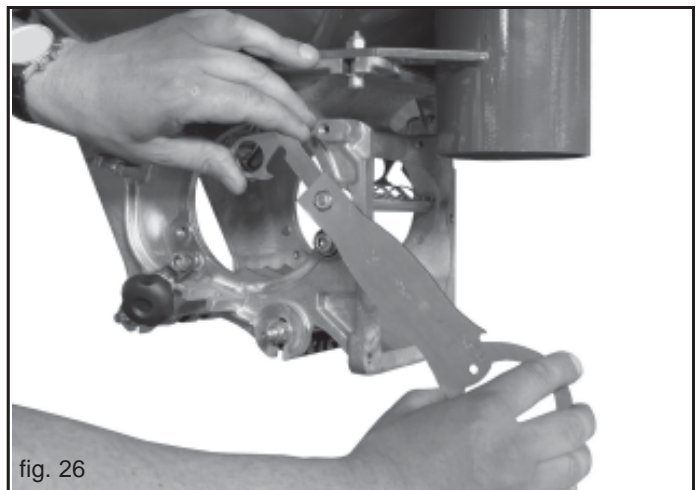

fig. 26
- 3) Loosen the M8 nuts (Fig. 26) using the supplied multi-purpose wrench.